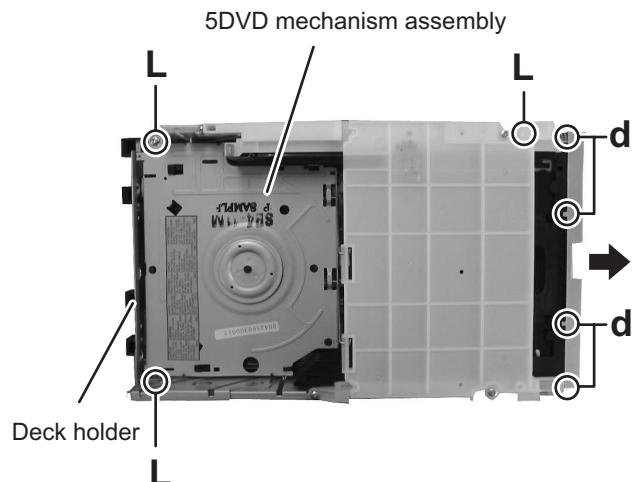

Fig.11
- (4) From the top side of the 5DVD mechanism assembly, remove the four screws **L** and remove the 5DVD mechanism assembly and the deck holder. (See Fig.11)
When removing the doors, release the claws **d** of the doors and then remove the five doors from the 5DVD mechanism assembly. (See Fig.11)
When releasing the claws **d**, take care not to break them. (See Fig.11)